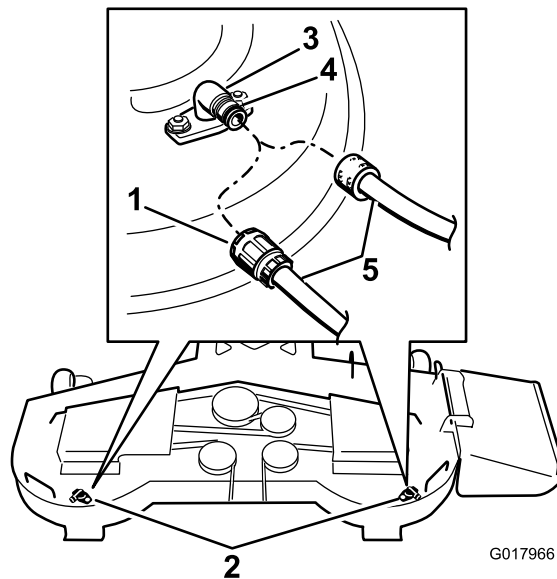

Figure 67
- Attach the hose coupling to the end of the mower washout fitting, and turn the water on high (Figure 67).